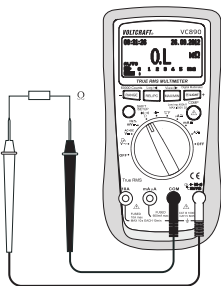

Fig. 5
2. Insert the red test lead in the $\text{CHZV}\Omega$ measuring socket (7), the black test lead in the COM measuring socket (8) (Fig. 5).